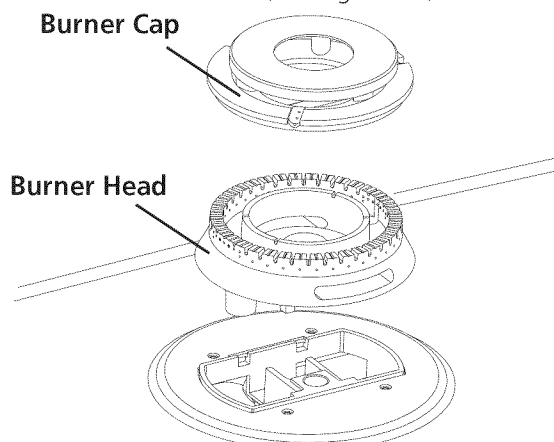

Figure 15
- C. **Triple Burner (if equipped):** Remove all tapes from burner cap. Remove the burner cap and head. Remove and discard the packaging material. Replace head and cap on the triple burner. **Be careful not to damage the electrode while placing the head over the orifice.** Make sure electrode fits correctly into slot in burner head (see Figure 15).